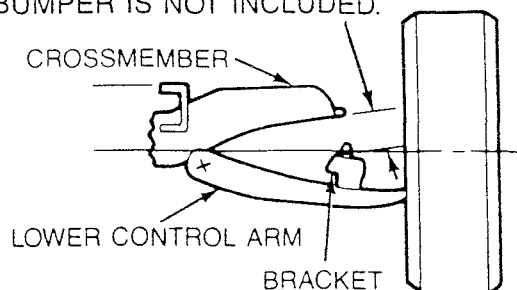

Figure 3-2 — Ride Height Measurement
5. Check for a difference in the ride height between right and left sides of the vehicle. (See Figure 3-2.)
The caster, camber and toe-in specifications for both the G- and P-Series chassis are shown in Figure 3-3. The caster specifications will vary depending on the ride height measurement (Dimension "A") shown in Figure 3-2. Dimension "A" is also affected by rear axle imbalance of weight (left to right). See Rear Suspension section of this manual for further information.